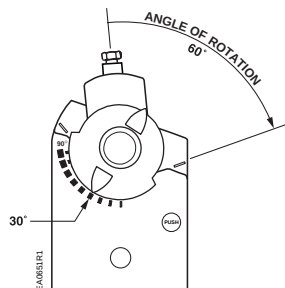

Figure 19. Mechanical Range Adjustment.
- Remove the shaft adapter and insert it with the position indicator pointing to the mark on the scale calculated in the previous step. See Figure 19.